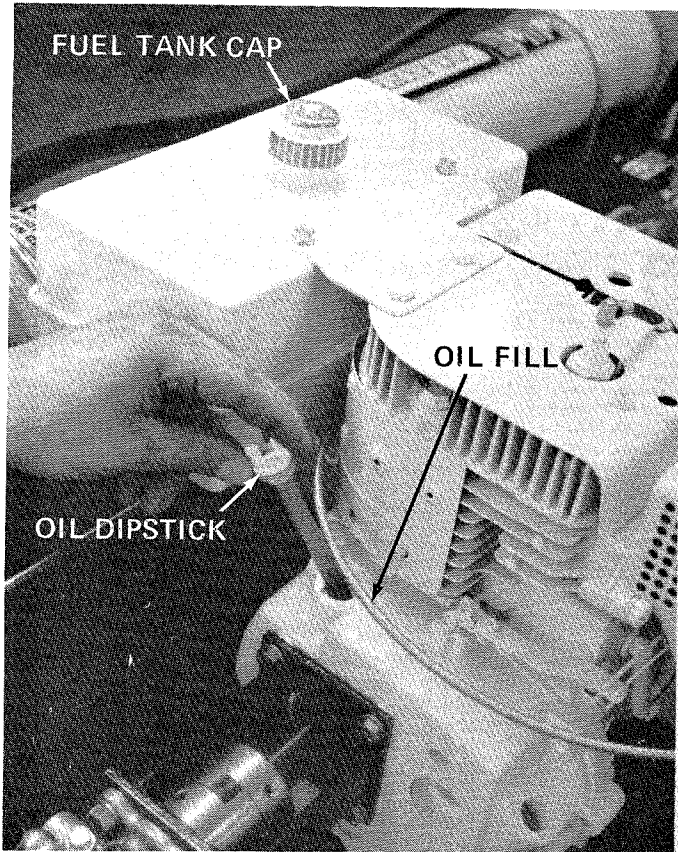

FIGURE 6
- Fill fuel tank with one gallon of regular grade gasoline. See figure 6.
- Engine will require 1-1/2 pints of SAE 30 or 10W30 oil. Remove oil dipstick. See figure 6.